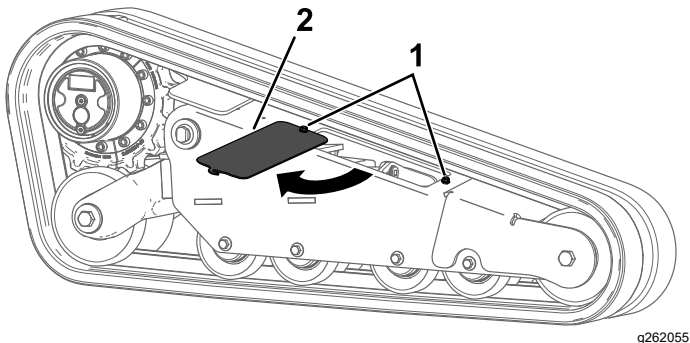

Figure 71
5. Loosen the 2 bolts and rotate the access cover open (Figure 71).
15. Close the access cover and tighten the bolts (Figure 71). Torque the bolts to 41 N·m (30 ft-lb).